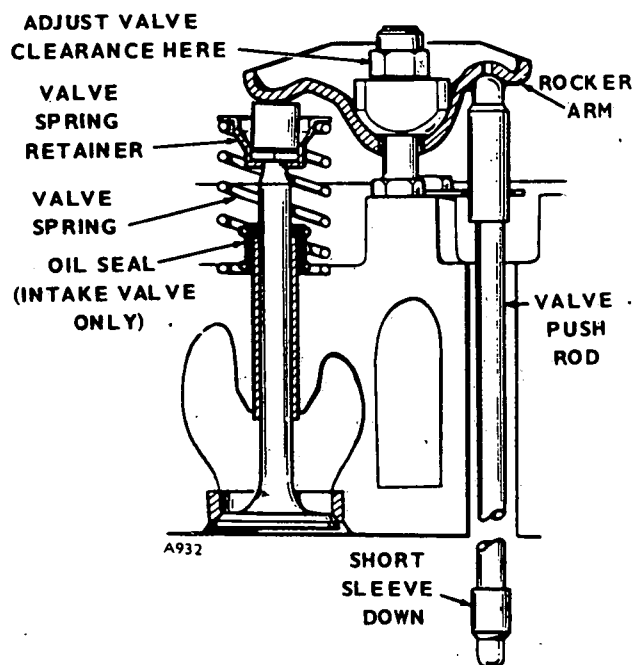

FIGURE 39. SETTING VALVE CLEARANCE
3. Cylinder head bolt torques should be 44 to 46 foot-pounds. To change the setting of valve clearance, adjust the locknut which secures the rocker arm to the cylinder head (see Figure 39). Loosen the locknut to increase clearance and tighten it to reduce clearance.
9. Set the valve clearance. See Figure 39.